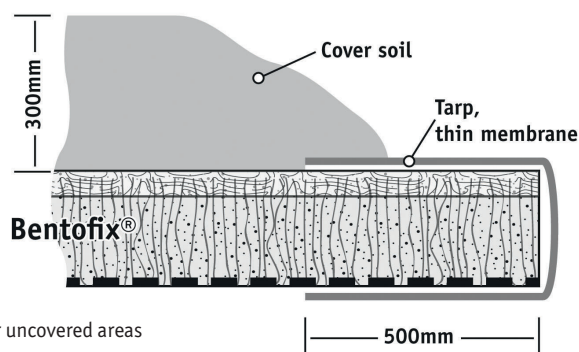

Fig. 9
16.12 Only as much Bentofix® GCL as can be covered by the end of the day should be deployed, or such amount that can be covered in a reasonably short time in the event of precipitation. Uncovered overlap edges should be protected overnight with a plastic membrane (Fig. 9) to prevent bentonite hydration. The edges of exposed sheets should be weighted down with sandbags or equivalent ballast, which does not cause any damage to the GCL, to prevent uplift in the event of strong winds.